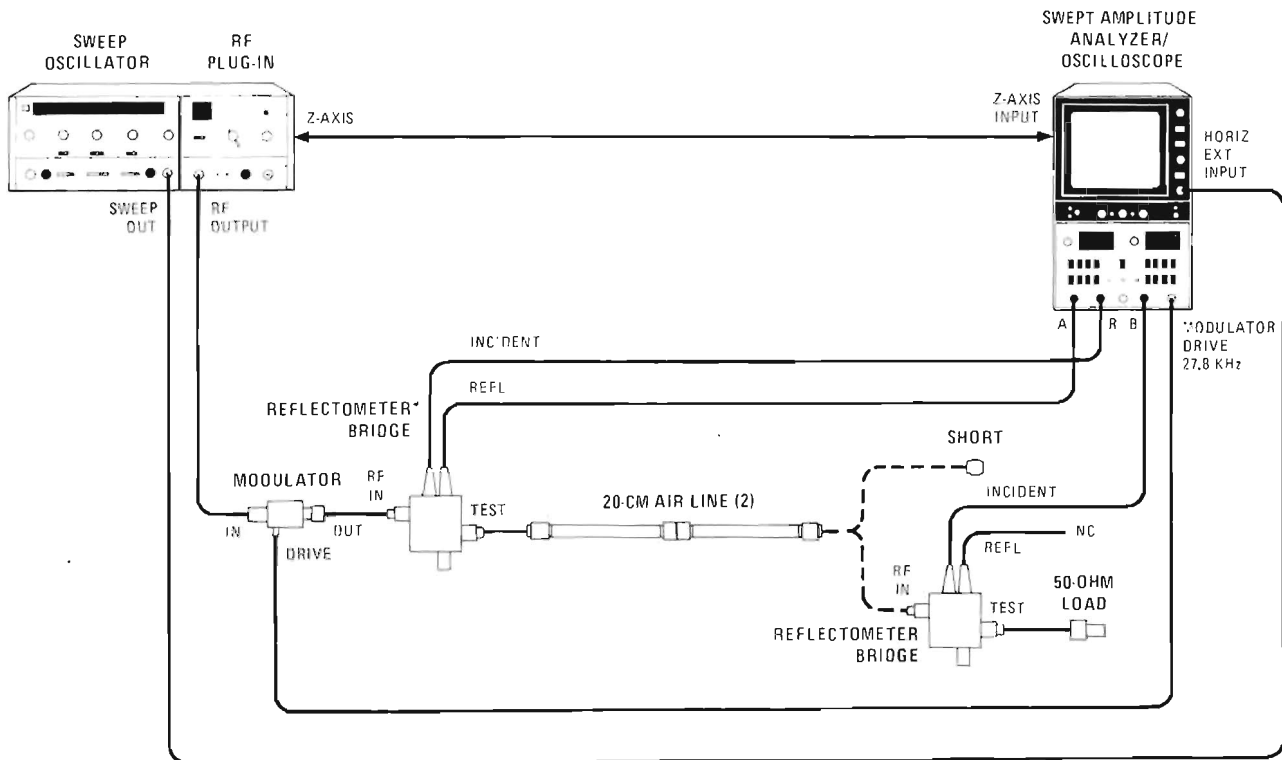

Figure 4-3. Input SWR Test Setup
- a. Connect equipment as shown in Figure 4-3 using RF Plug-in to cover band of interest.